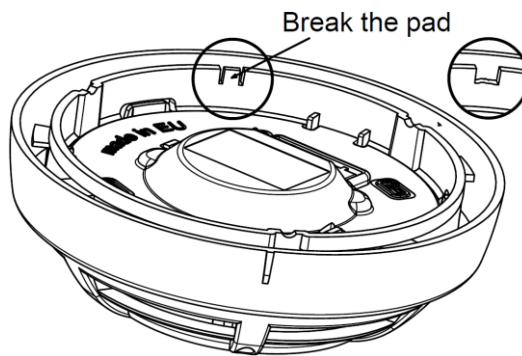

Fig.3
- Break the plastic at the specified location on the bottom of the sounder (Figure 3).